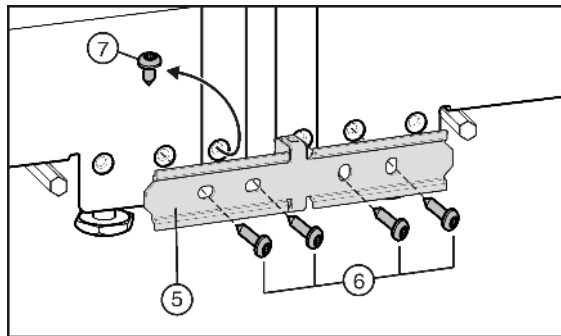

Fig. 6
- ▶ If the appliance is fitted with the pre-mounted screw Fig. 6 (7): Undo the screw.
- ▶ Fix the joining plate Fig. 6 (5) loosely to one appliance with two screws Fig. 6 (6).